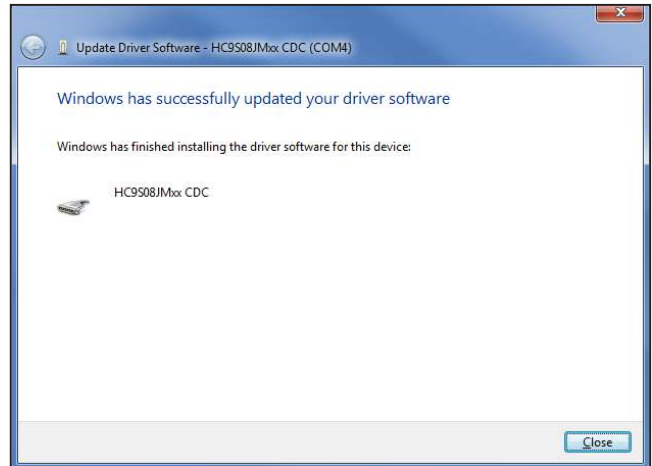

Figure 15. Driver Software Installer Completion
6) Click **Close** to complete the driver installation and exit the software installer. See Figure 15.